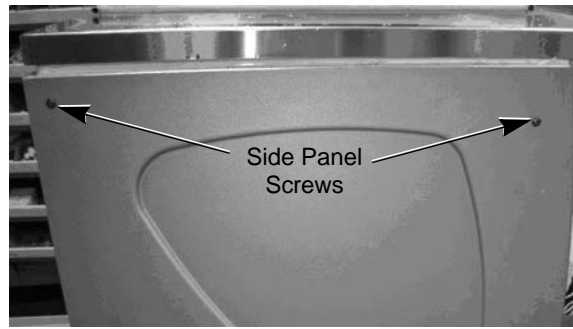

Figure 1
1. Remove the two top black side panel screws from both sides of the Flavor Fusion unit (See Figure 1) and save the screws.
2. Remove the two top black side panel screws from both sides of the Flavor Fusion unit (See Figure 1) and save the screws.